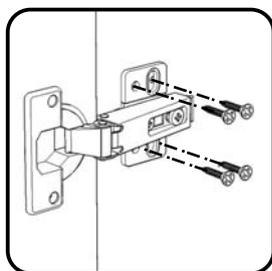

Figure 6
Attach Doors (K) to unit with Wood Screws for Hinge. (See Figure 6)